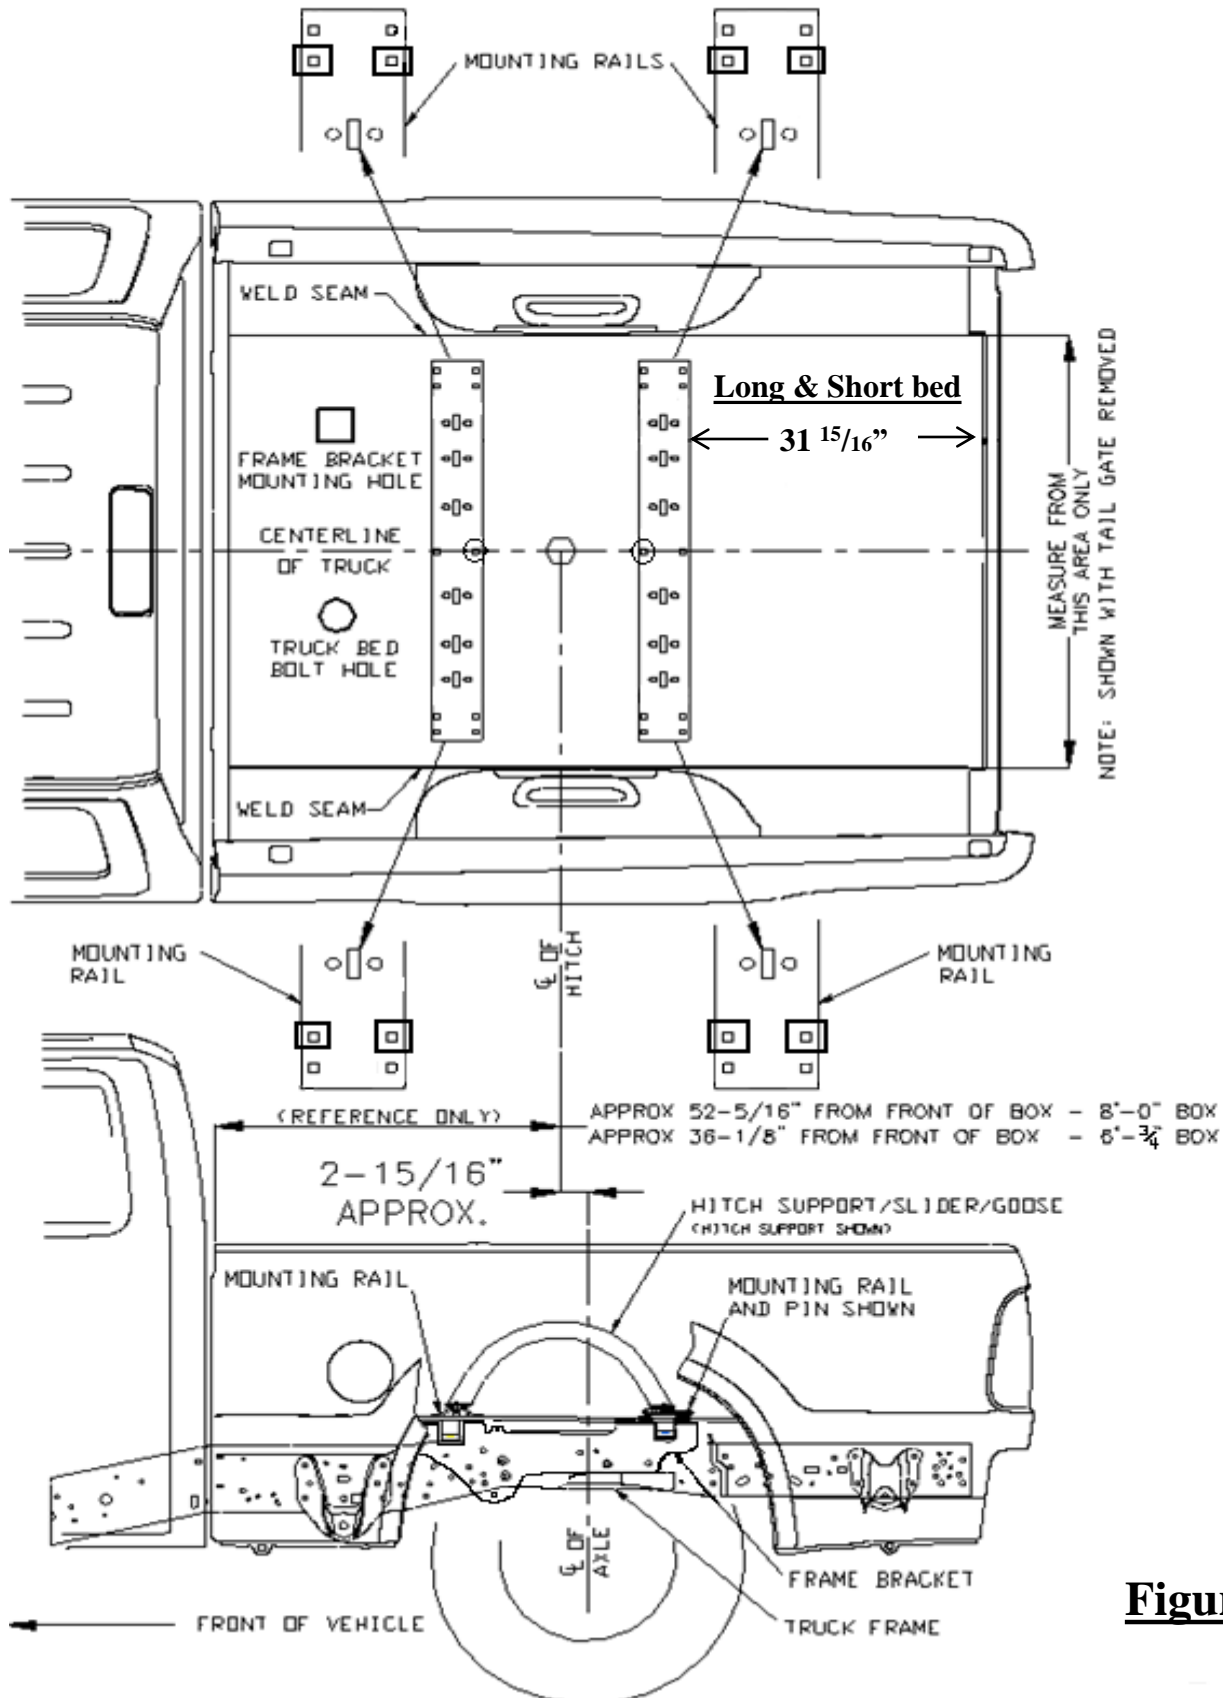

Figure 5
4. Place the rear mounting rail in the box of the truck. Using your tape measure, center the rail between the weld seams on the length of the truck box floor and the proper distance from the rear edge of the truck box as illustrated in Figure 5. See page 1 for mounting the brackets to the rails. See below for mounting the brackets to the frame.
5. Mark and center punch the holes as per the illustration in Figure 5. Move the rail out of the way and drill each position with a 1/8" drill bit. **Warning: When drilling holes be aware of potential risks, such as brake lines and fuel tanks, to vehicle components and make appropriate safe guards to protect them from damage.**